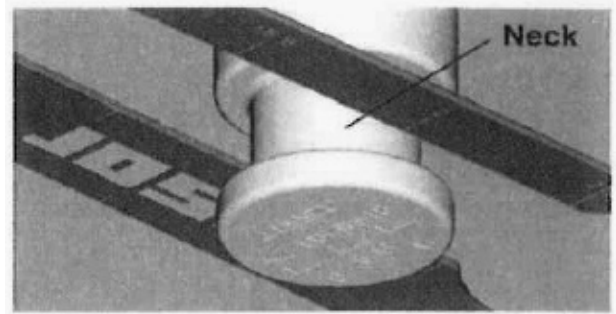

FIGURE 1
- B. Slide the gage toward the small end. The number stamped on the gage at the center of the Kingpin indicates the dimension (see figure 1).